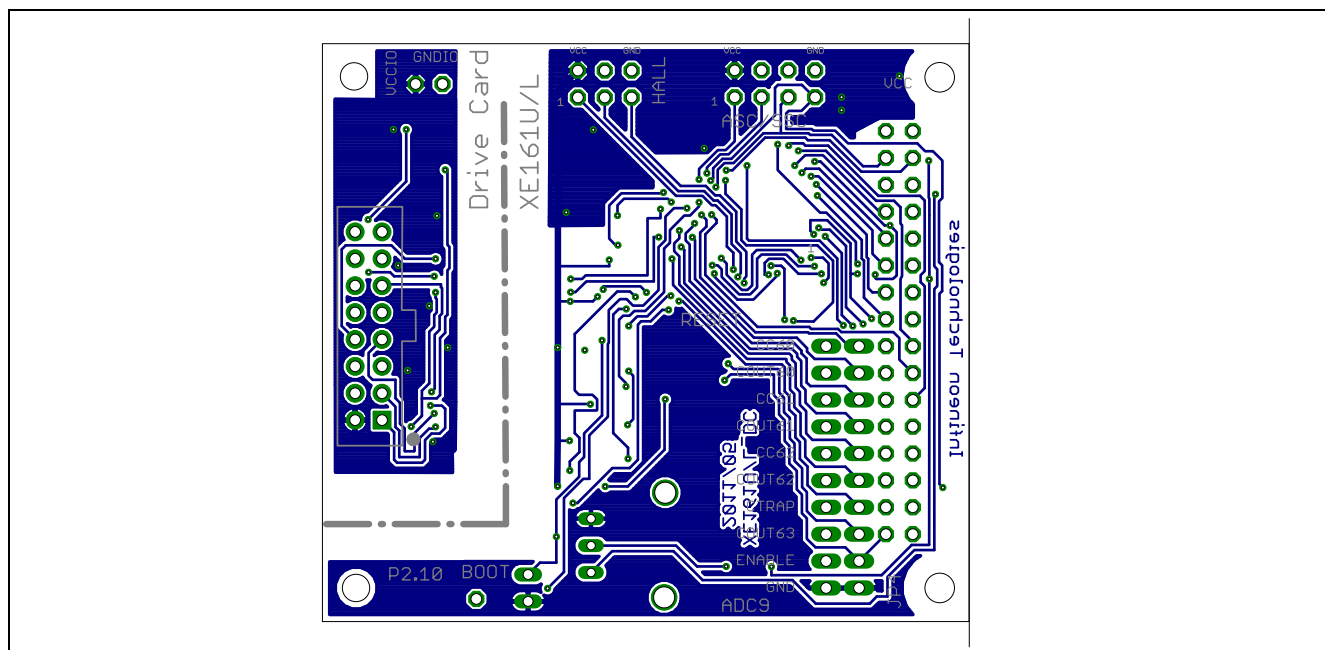

Figure 9 Bottom View
- Figure 9 “Bottom View” on Page 12